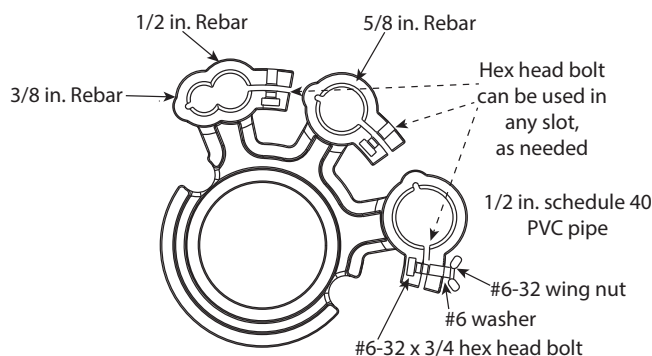

Figure 32: Support bracket (knuckles)
**Pipe Install Kit (64394-003)** with mounting support bracket (Figure 32) is designed for pipe installations on a 3/8, 5/8 and 1/2 inch rebar or 1/2 inch schedule 40 PVC pipe.